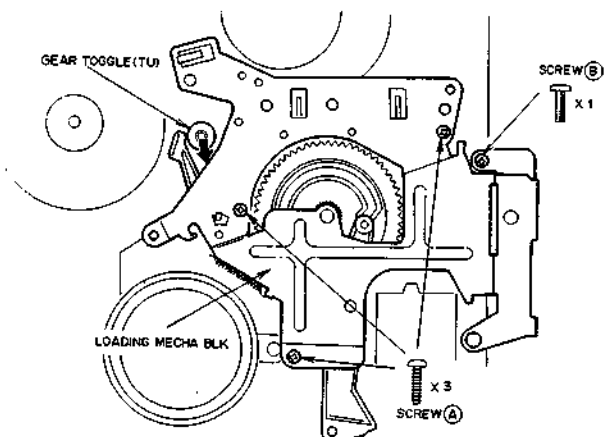

Fig. 4-13
9) Attach the LOADING MECHA. BLK with holding the GEAR TOGGLE (TU) in the direction of the arrow as shown in Fig. 4-13. Tighten the LOADING MECHA BLK with four screws ① and ②.